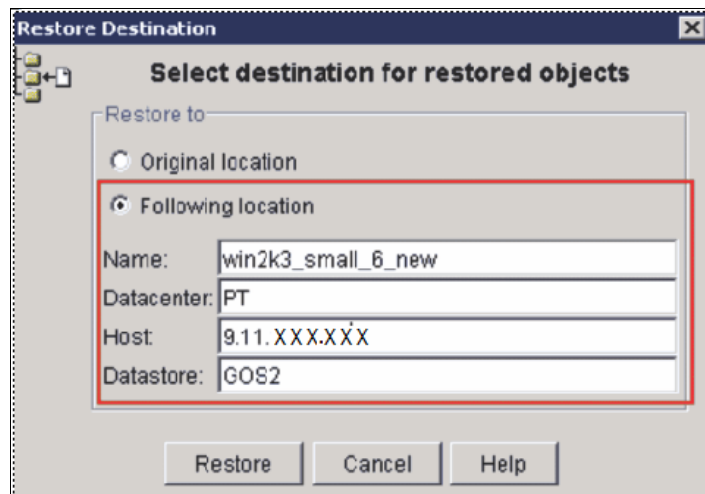

Figure 20-28 Restore Destination window
3. Tivoli Storage Manager prompts you to select whether to restore to the original location or to a new location (Figure 20-28). If you choose to restore to a new location, enter the following information, and click **Restore**: